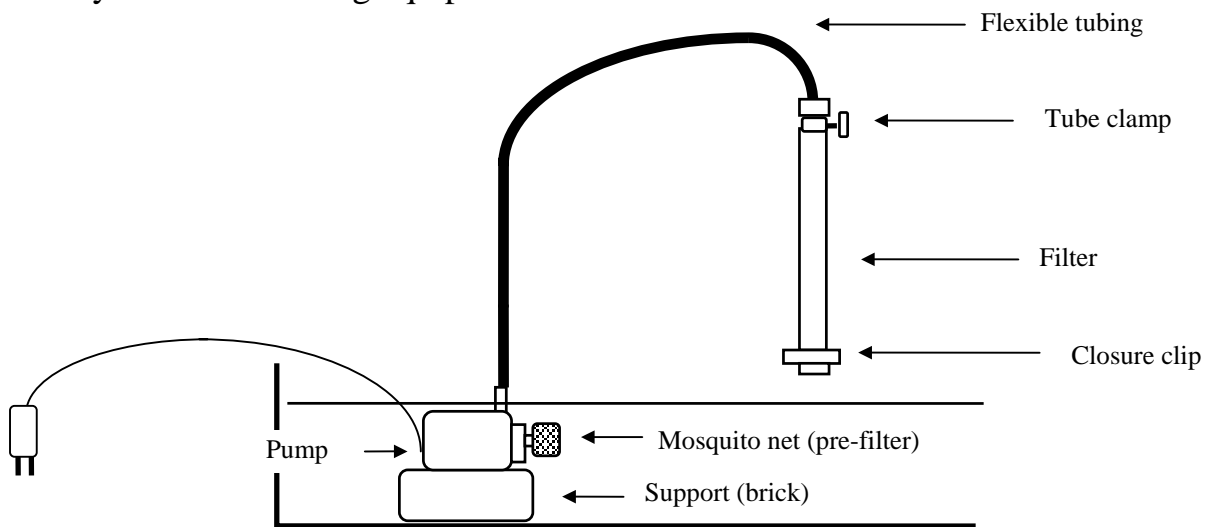

Fig. 3. Extrusion and drying of the spirulina paste
5.3 Extrusion and drying (drawings in Fig. 3)
Drying is a good way of conserving spirulina over a long period (at least a year if it is correctly conditioned). This drying should be done as fast as possible (less than four hours), but if a heated dryer is used a temperature of 50°C should not be exceeded, in order not to destroy the vitamins and essential fatty acids. To help it to dry, the spirulina paste should be extruded in the form of spaghetti-like strands. For small quantities, this can be done by squeezing the paste through a large syringe. For more than 200 g of spirulina paste, a special extruder should be used (see illustration in Fig. 3). As they are squeezed out, these “spaghetti” are laid out on mesh trays, preferably in a single layer. When they are full, the trays are stacked in a ventilated cabinet covered with mesh to so that they can dry protected from direct light and insects. The “spaghetti” are dry when they break easily and can be reduced to powder; at that stage they are easy to remove from the trays.